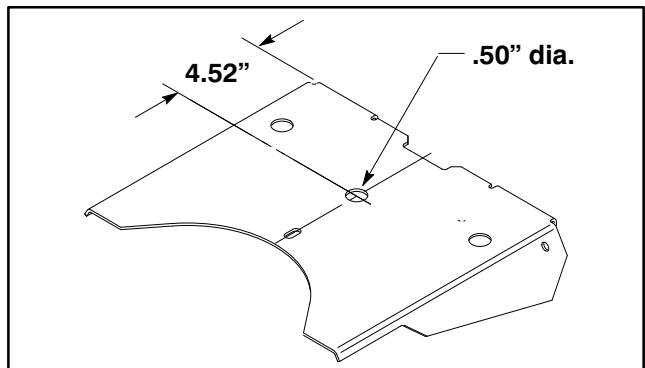

Figure 8
7. On Sand Pro 5000 only – Using dimension shown in figure 8, locate, mark and drill a .50" dia. hole in chain shield. Install chain shield with fasteners previously removed.